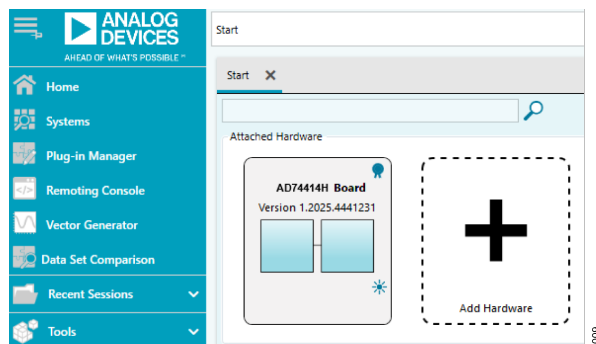

Figure 9. ACE Evaluation Software – Attached Hardware
7. The board appears as **Attached Hardware** (see Figure 9). To continue, double-click the **AD74414H Board** window.